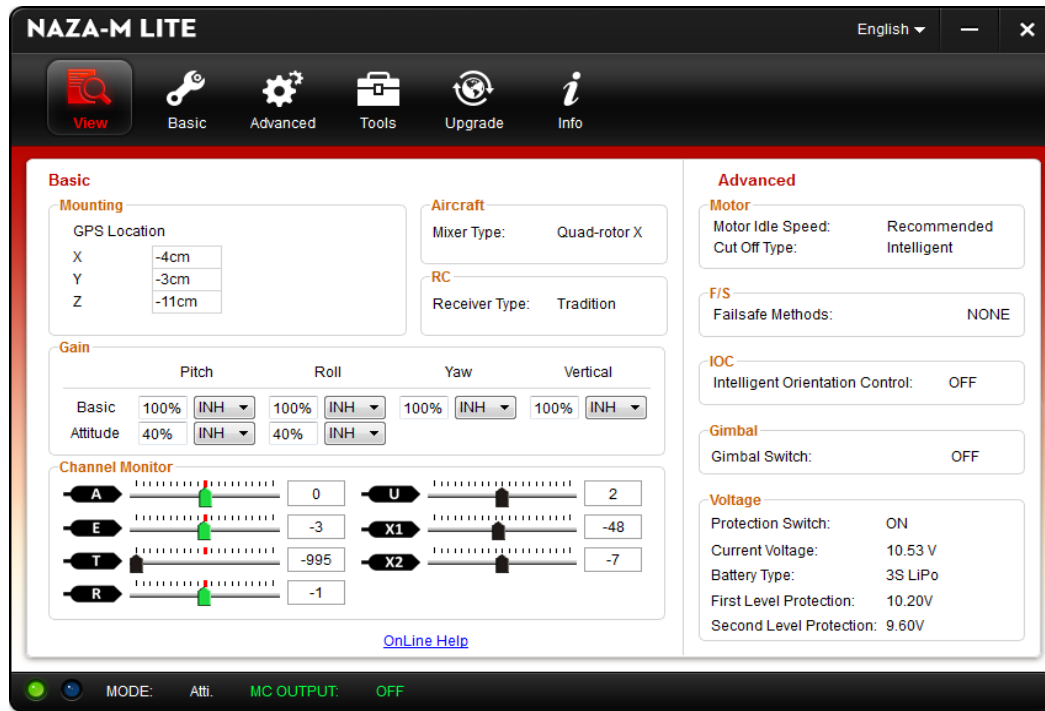

Figure 2: “View” page of the NAZA-M LITE Software Assistant
- The “**view**” section of the **NAZA-M LITE Software Assistant** gives an overview of the quadcopter settings, as shown in Figure 2.